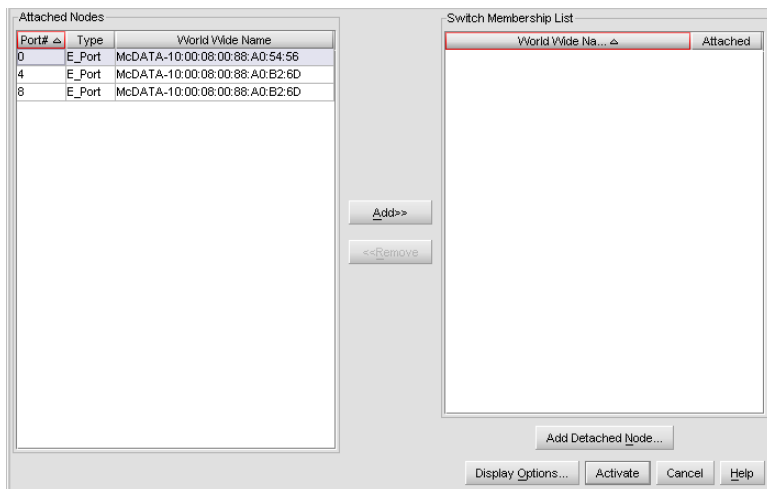

Figure 72 Switch Binding – Membership List dialog box
1. Select **Configure > Switch Binding > Edit Membership List** from the **Element Manager** window. The Switch Binding – Membership List dialog box is displayed (Figure 72).